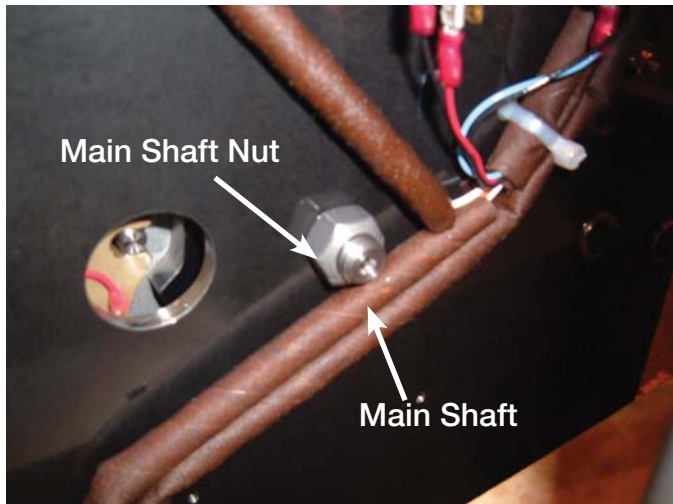

Figure 4.
8. Remove the nut from the end of the main shaft with a 3/4 inch socket wrench. While removing the nut, the shaft will have to be prevented from turning. Use a 5/8 inch open end wrench if the tap changer has a molded movable contact board (the shaft has two flats for the wrench engagement). Use a channel lock pliers if the tap changer has a phenolic movable contact board (the shaft does not have any flats to engage) (refer to Figure 4).